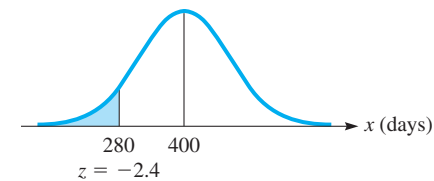

Fig. 22.14
- (c) To find the number of batteries that will last less than 280 days, we first find that $z = (280 - 400)/50 = -2.4$ for $x = 280$. Since we want the total area to the left of $z = -2.4$, we subtract the area for $z = 2.4$ from 0.5000, the total area to the left of the mean. Since the area for $z = 2.4$ is 0.4918, the total area to the left of $z = -2.4$ is $0.5000 - 0.4918 = 0.0082$. See Fig. 22.14. Therefore, $0.0082 \times 5000 = 41$ batteries are expected to last less than 280 days. ■